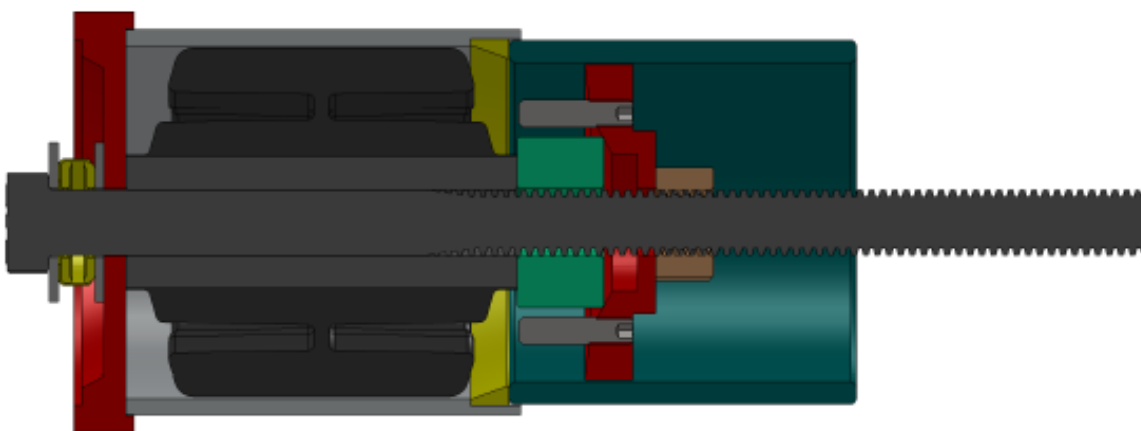

Fig. 4
4. With a 3/4" drive impact gun and a 1 11/16 socket tighten the bolt to pull the drive plate in, which will press the pivot bush out of the trailing arm sleeve. (see Fig. 4)